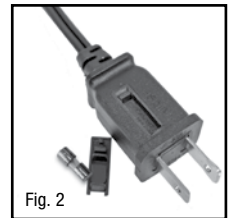

Fig. 2
2. If your fan loses power and you suspect that the fuse on your fan has blown, you should first remove the spare fuse holder attached to the cord plug (Fig. 1). Remove the spare fuse from the plastic spare fuse holder, and set the spare fuse aside (Fig. 2).
- To operate, turn the control knob to the desired fan speed: HIGH (III), MEDIUM (II) or LOW (I) (Fig. 2).